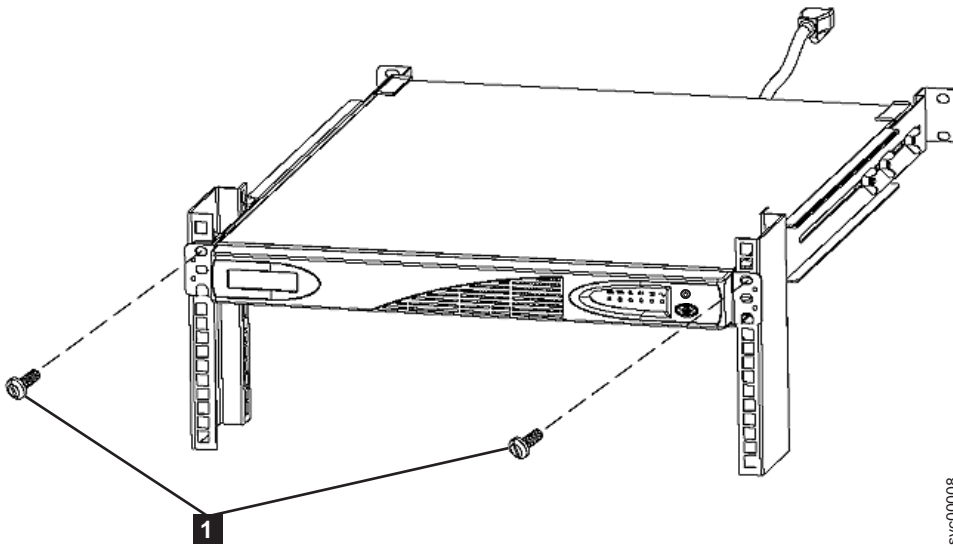

Figure 314. Mounting screws for the 2145 UPS-1U
4. At the front of the 2145 UPS-1U, install the two mounting screws (**1** in Figure 314).